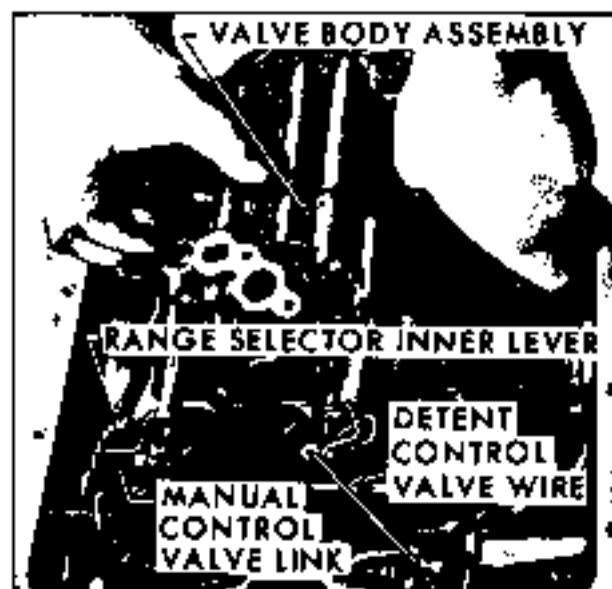

Fig. 7G-14 Removing Valve Body Assembly
7. Remove seven (7) spacer support plate bolts and remove spacer support plate from case (Fig. 7G-15).
9. Remove four (4) check balls from cored passages in case face (Fig. 7G-16).
10. Remove oil pump pressure screen from oil pump pressure passage in case and clean (Fig. 7G-17).